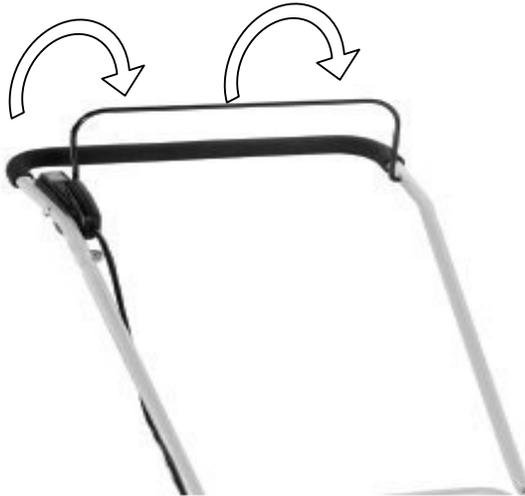

Figure 14
1. Release the bail arm to stop the engine. (Fig 14)